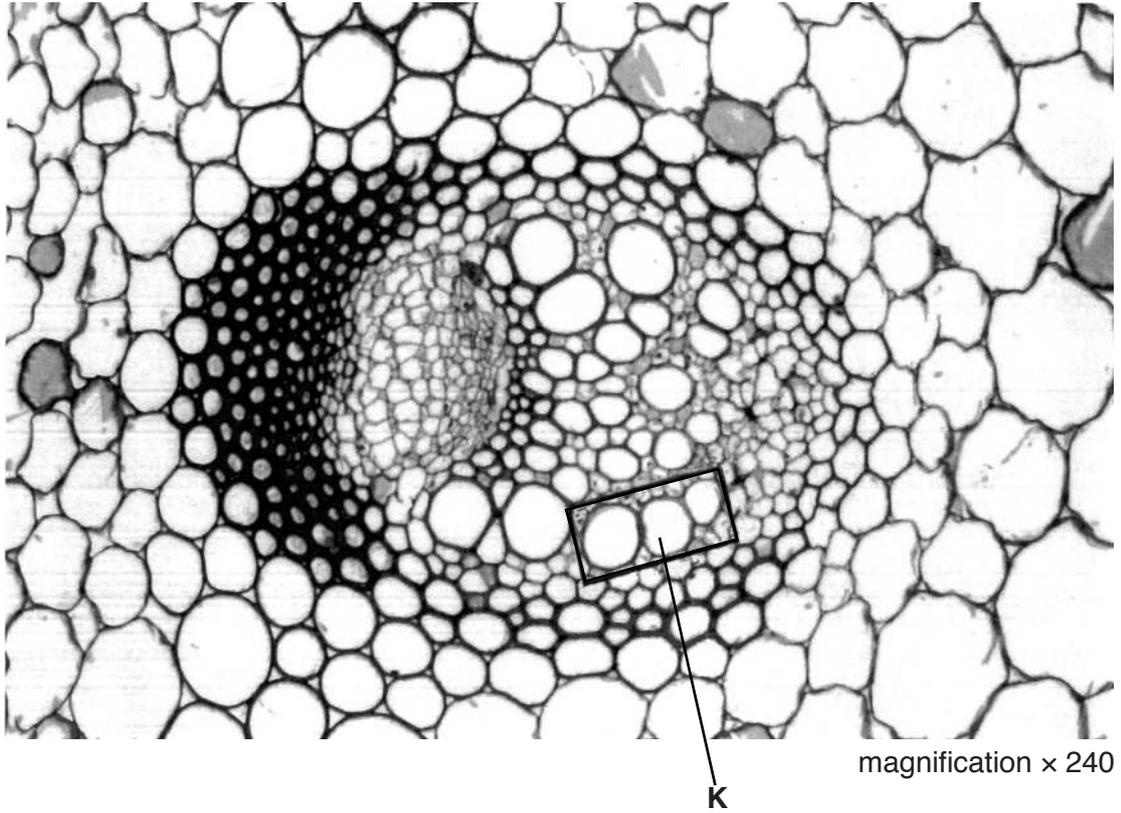

Fig. 2.1
- 2 (a) Fig. 2.1 shows a transverse section of a vascular bundle in the stem of a dicotyledenous plant, as seen under the high power of a light microscope.
- (i) On Fig. 2.1, draw a label line and label a phloem cell.
(b) Draw a line on Fig. 2.1 on cell **K** to show the maximum diameter.